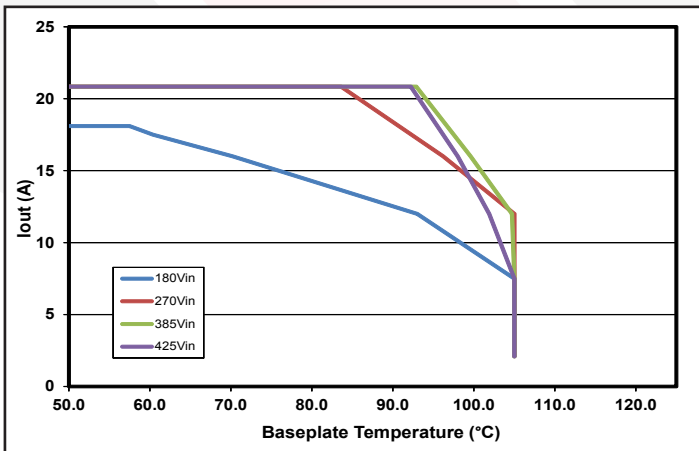

Figure 5: Maximum output current vs. base plate temperature (nominal output voltage).
**AVAILABLE OUTPUT POWER:** The FE output power can be limited by several means. Typically at lower lines, the available output power is a function of the maximum input current that the integrated Buck/Boost can deliver. At higher lines, the output power will be limited by the lesser of 1000W or Imax. Thermal considerations may affect maximum deliverable power. See Figures 5 and D.